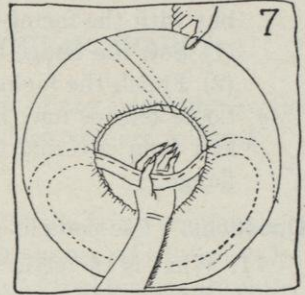

Fig. 7.
- b. In order not to stretch the bias again, lift it carefully from the steel wire (see Figure 7).